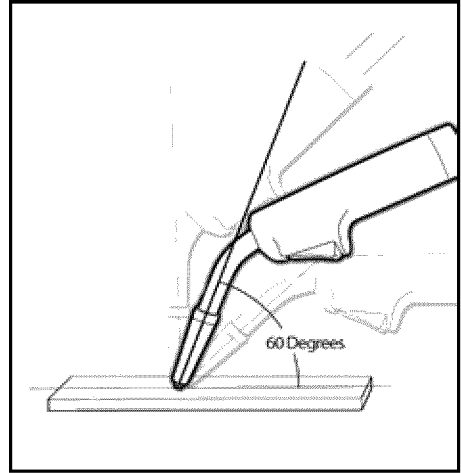

Fig. 7a
1. Angle A (Fig. 7a) is formed with the torch positioned so that the contact tip and nozzle are directly above the item to be welded. In most cases the optimum angle is where the contact tip and nozzle is 60 degrees to the item you are welding. Dropping the back of the torch handle will reduce the angle of the contact tip and nozzle to the item to be welded and will decrease penetration. Raising the back of the torch handle will increase